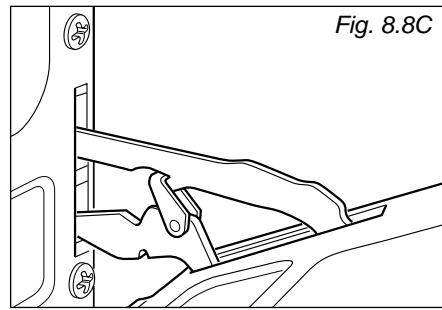

Fig. 8.8C
- Gently close the door and withdraw the lower hinge pins from their location (fig. 8.8C).